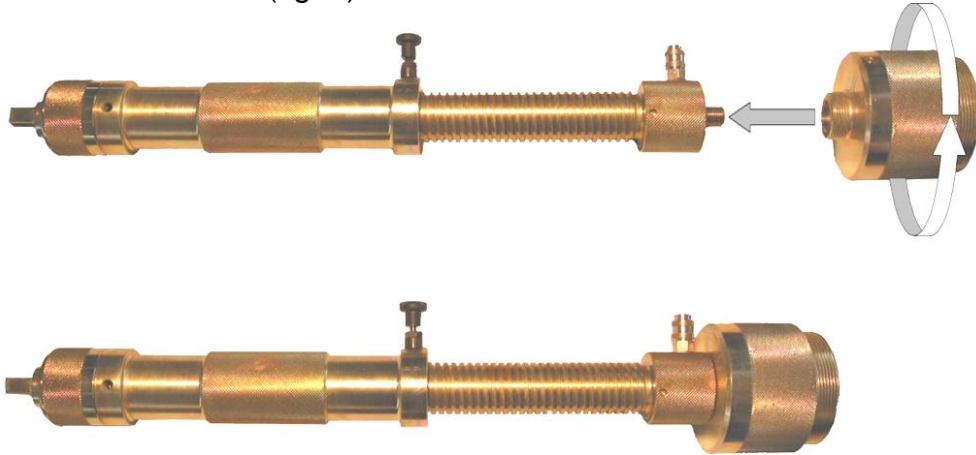

Fig 1
1. After removing the machine from the box remove the hole saw and **the cutter holder holder**, need not remove the lid that covers the saw, attach the cutter holder holder when you screw it up to seal against the O-ring. Then tighten with the wrench. (fig. 1).